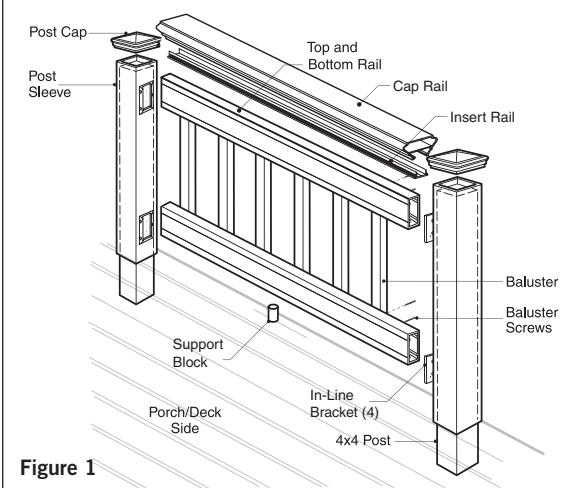
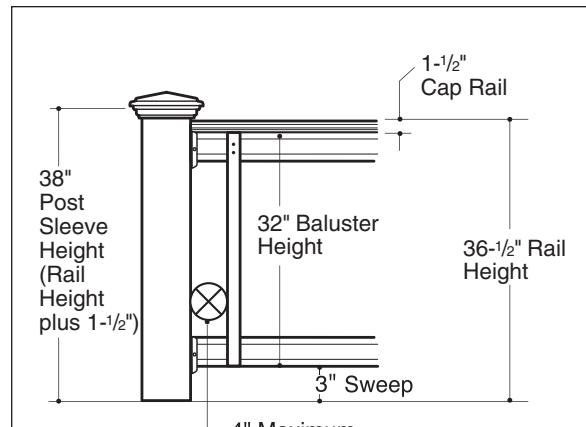

Figure 1
Figure 4a
**Step 5** Trim 4x4 post sleeves to length. Post sleeves should be a minimum of 1-1/2" longer than the overall railing height (**Figure 4a and 4b**). Allow an additional 1-1/2" in your calculation if installing the optional cap rail. Example: For a 36" high railing, trim post sleeve to a minimum of 37-1/2" (39" with cap rail). Post sleeve can be left longer if desired.
**Step 6** Measure the distance between installed post sleeves to determine the length of the top and bottom rails (**Figure 1**). The distance between the post and first baluster should be less than 4" and equal on both ends (**Figure 4a and 4b**). Remove an additional 1/4" on both ends (1/2" overall) for the bracket to fit between the rail and post. Trim the top and bottom rails to length.
**Step 8** Position the bottom rail between posts and center. **Check building code requirements for maximum spacing between deck surface and bottom of rail (sweep).** Spacing of 3" is recommended, but can be more or less if codes allow (**Figure 4a and 4b**). Mark the location of the bracket on both posts. Remove rail. Mark the screw locations and pre-drill through the post sleeve only, using a 1/4" drill bit. Attach each bracket to the post with two 2" long screws.
**Step 9** A support block is needed at the center of each rail. Cut the support block to the proper height. Attach to the bottom of the lower rail (**refer to Figure 1**). Find the center of the rail and pre-drill using a 1/8" drill bit. Attach the support block connector using the included screw. Mark the location of the support block on the deck surface and attach the other support block connector to the deck using the included screw. Install the bottom rail between the posts. Using the brackets as a guide, pre-drill each screw hole using a 1/8" drill bit and attach each end to brackets using two 1" long screws. Tip: Use a driver extension bit to avoid marring the rail or post sleeve with the drill chuck.
**Step 10** Figure 4a and 4b illustrate how a 36" high railing might be sized. If you want to have your railing at a different height, use Figure 4a and 4b as planning tools to determine the height to cut the post sleeves and support blocks. Note: Use a fixture to ensure a consistent length (+/- 1/16").
**Step 7** A support block is needed at the center of each rail. Cut the support block to desired height. Attach to the bottom of the lower rail (refer to **Figure 1**). Find the center of the rail and pre-drill using a 1/8" drill bit. Attach the support block connector using the included screw. Mark the location of the support block on the step tread and attach the other support block connector to the step tread using the included screw.